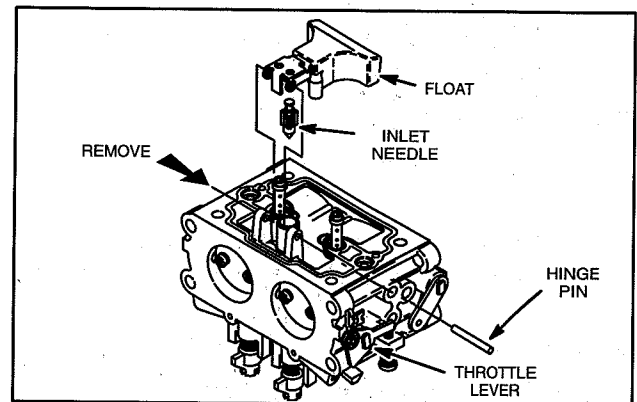

Fig. 46 – Remove Float
- a. Remove float and fuel inlet needle assembly, Fig. 46.